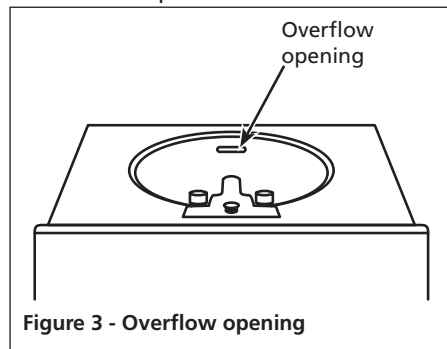

Figure 3 - Overflow opening
7. Cover any overflow opening in the basin (see Figure 3) with a wet rag or duct tape.